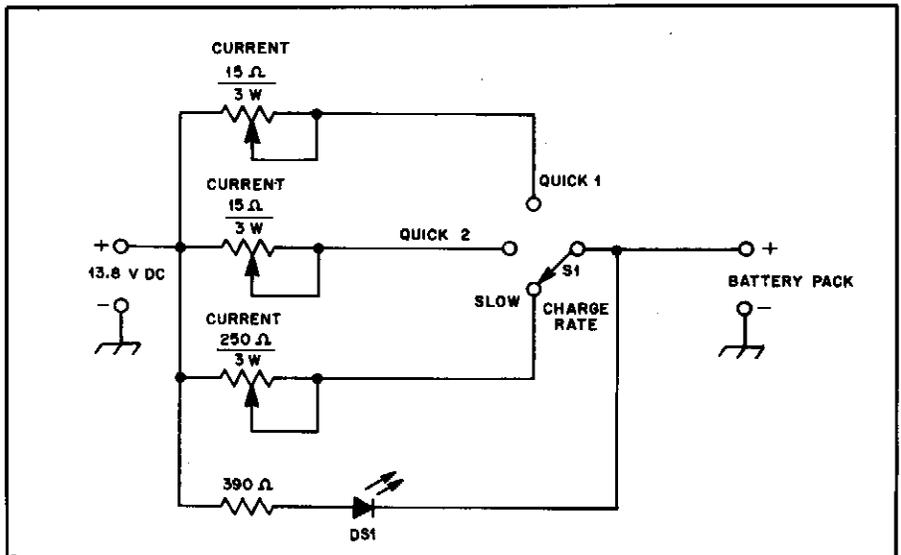

Fig 3—KB3WZ's emergency charge adapter for NiCd battery packs. S1 is a three-position, single-pole rotary switch. DS1 is any common LED.
□ Fig 3 shows a simple charge adapter I use to charge batteries for my hand-held transceivers. The adapter allows both fast and slow constant-voltage charging with a regulated 13.8-V dc power supply.1